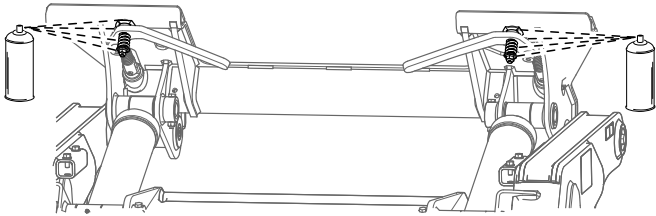

Figure 47
7. Lubricate the quick-attach linkages using spray lubricant (Figure 47).